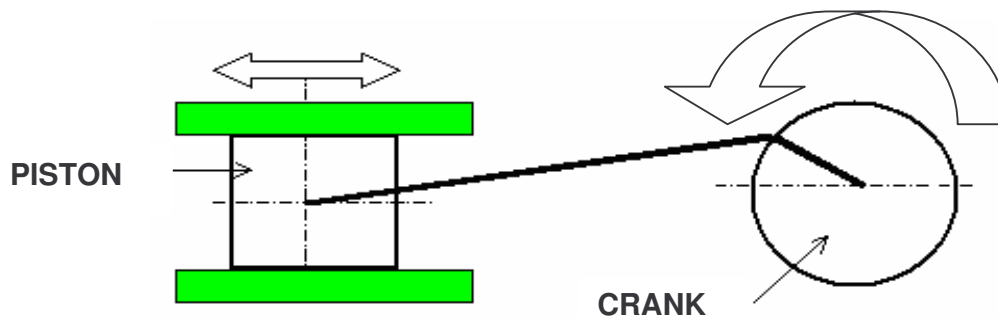

FIGURE 1.7
1.16 What type of linkage is shown in FIGURE 1.7? (Propulsion from the crank.)